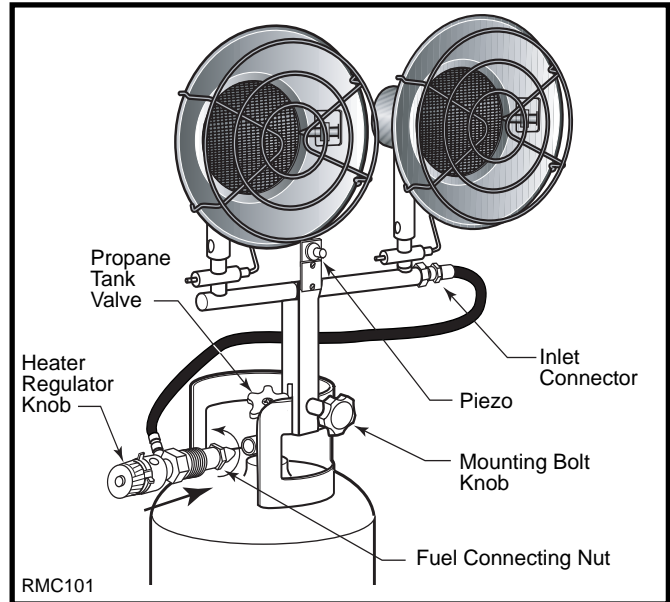

Fig. 2 Attach heater to tank with tank collar bracket.
5. Connect the hose to inlet connector. (Fig. 2) Tighten firmly using wrench. Make sure hose is connected before opening the tank valve.